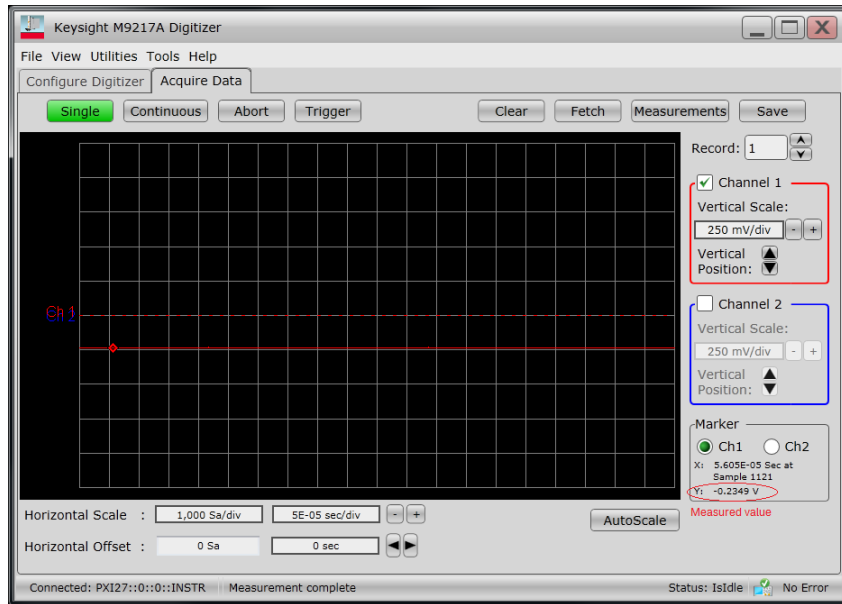

Figure 10 Data acquisition and measurement result
- 5 On the M9217A PXIe 2-CH Digitizer SFP, click on the **Acquire Data** tab. Click on **Single** to measure. The result will be displayed as shown in Figure 10.